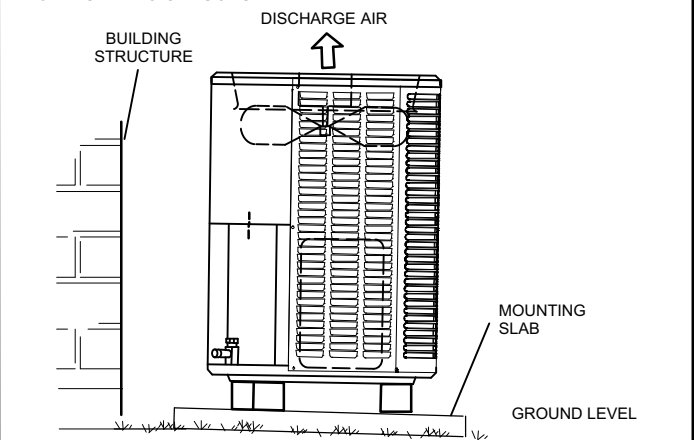

Figure 3. Placement, and Slab Mounting
- When possible, do not install the unit directly outside a window. Glass has a very high level of sound transmission. For proper placement of unit in relation to a window see the provided illustration in Figure 3, Detail A.
When installing unit at grade level, the top of the slab should be high enough above grade so that water from higher ground will not collect around the unit. The slab should have a slope tolerance as described in Figure 3, Detail B.